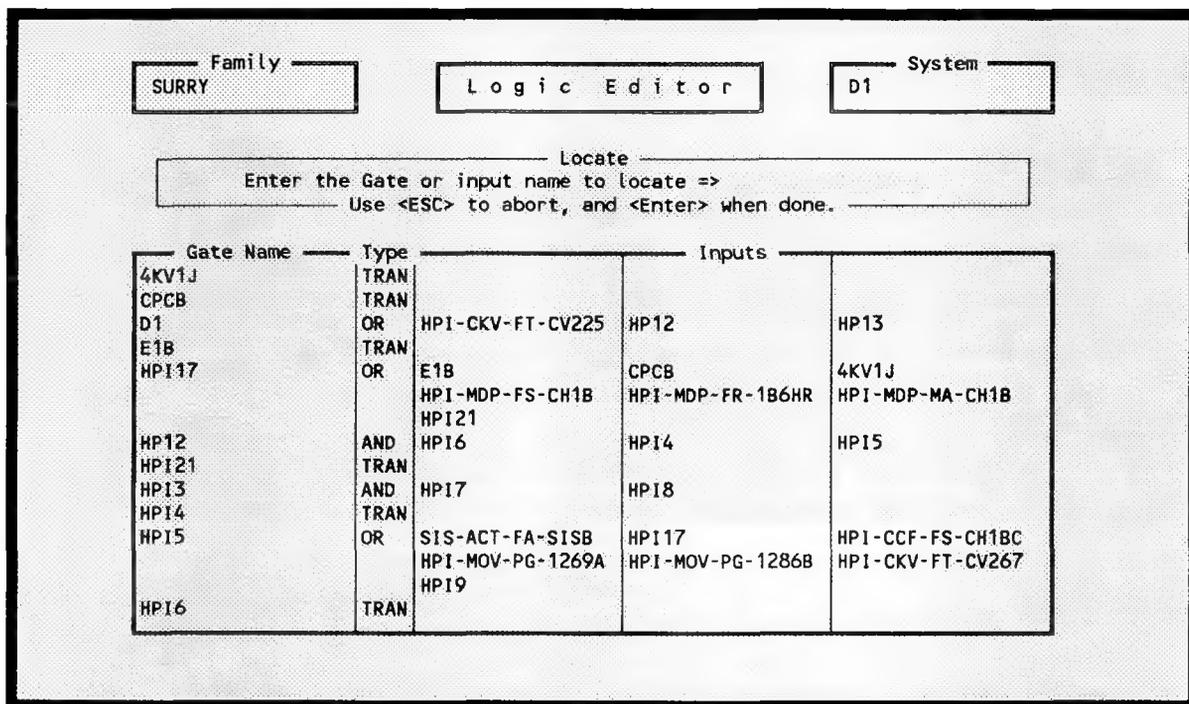

Figure 119. Locate a specified gate or event.
5.6.2.5 Locate. This option allows you to locate a specified gate or event. When you invoke this option, Figure 119 will appear at the top of the screen prompting you to enter the name you wish to locate. The input is case-sensitive, so you must enter the name exactly as it appears. Enter the gate or event name and press <Enter>. If found, the entered name or event will be highlighted and the message **Name Found** will be displayed at the bottom of the screen. If the event or name is not located, the message **Not found** will be displayed.